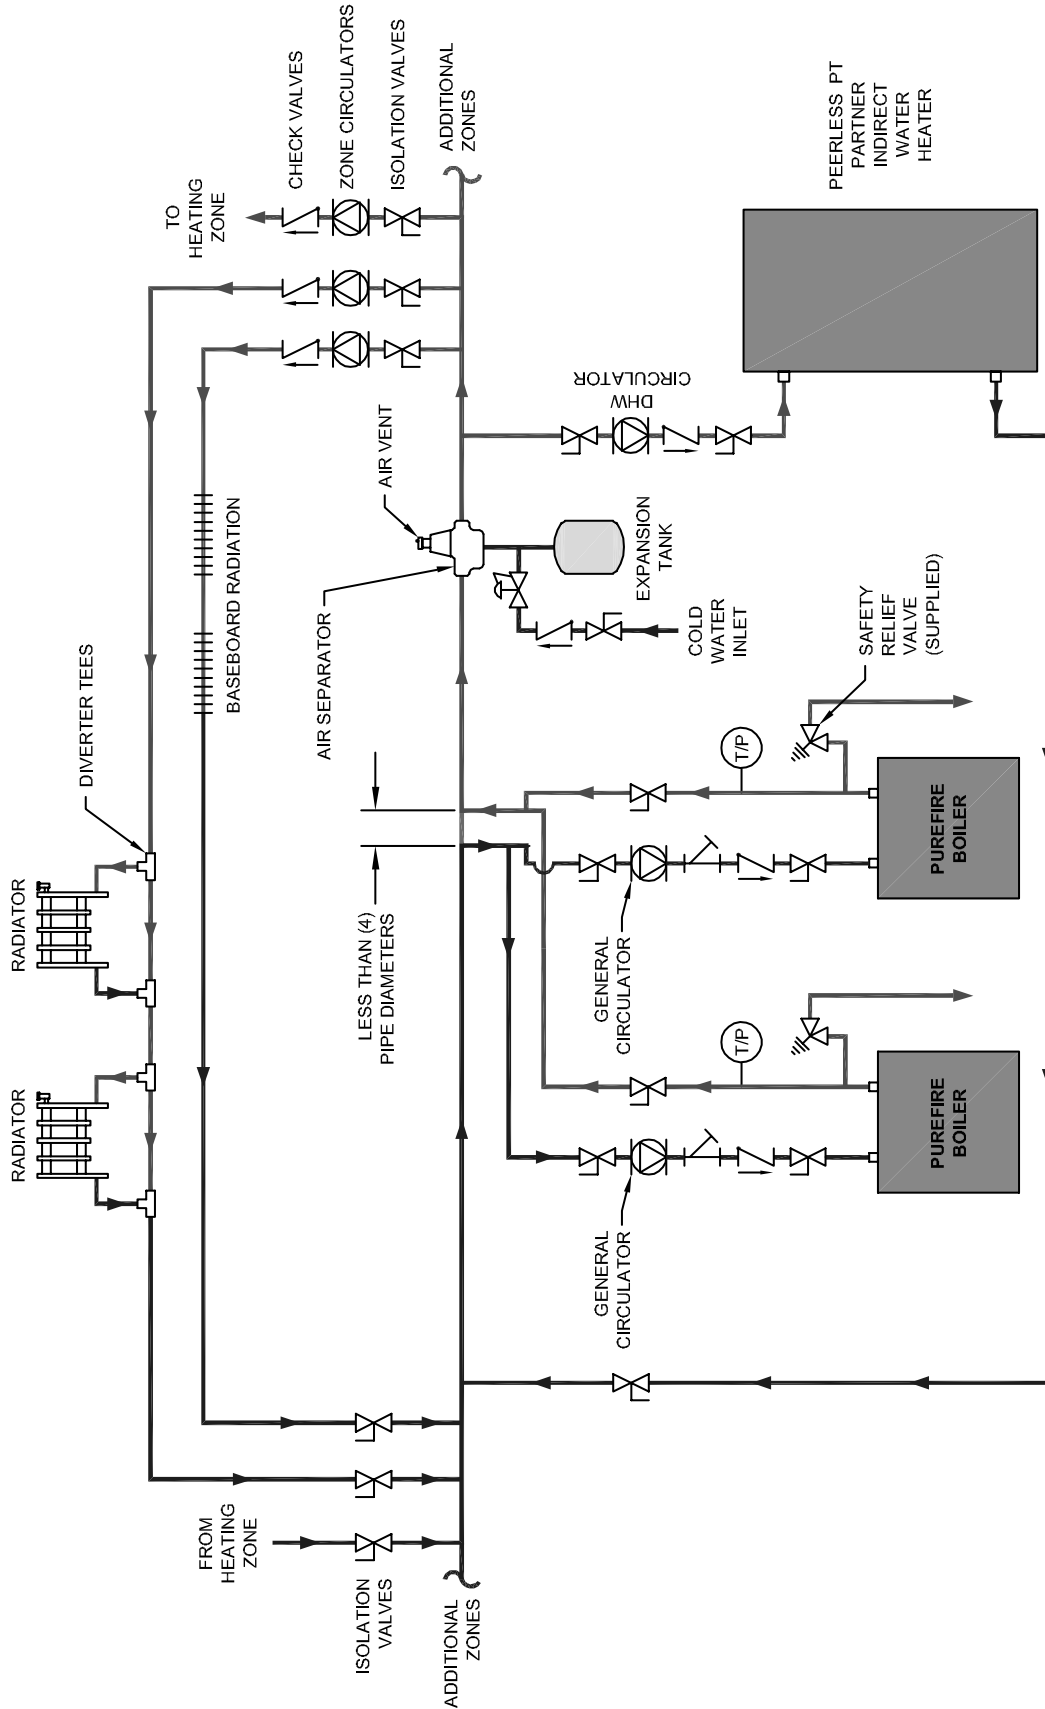

Figure 4.6: Two Boilers, Primary/Secondary with Four Zones (Zone Circulator)
3. In Figure 4.6 an additional boiler is added and more heating zones are shown. Notice that the two boilers are piped in parallel on the secondary loop. This maximizes the efficiency of the boilers since the lowest temperature system water is returning to both boilers.